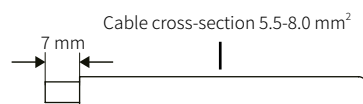

Fig. 30. Wire end stripping.
2. Strip 7 mm of the insulation sleeve of the DC cable, as shown in Fig. 30.